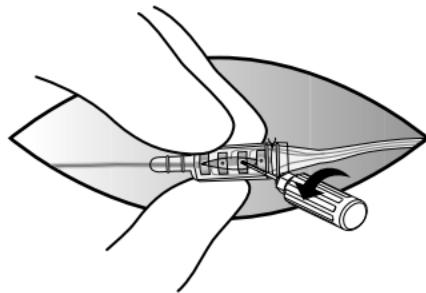

Figure 17. Loosen setscrews.
6. Using the torque wrench, loosen each of the four setscrews by turning the wrench counter-clockwise (approximately one turn) (Figure 17).